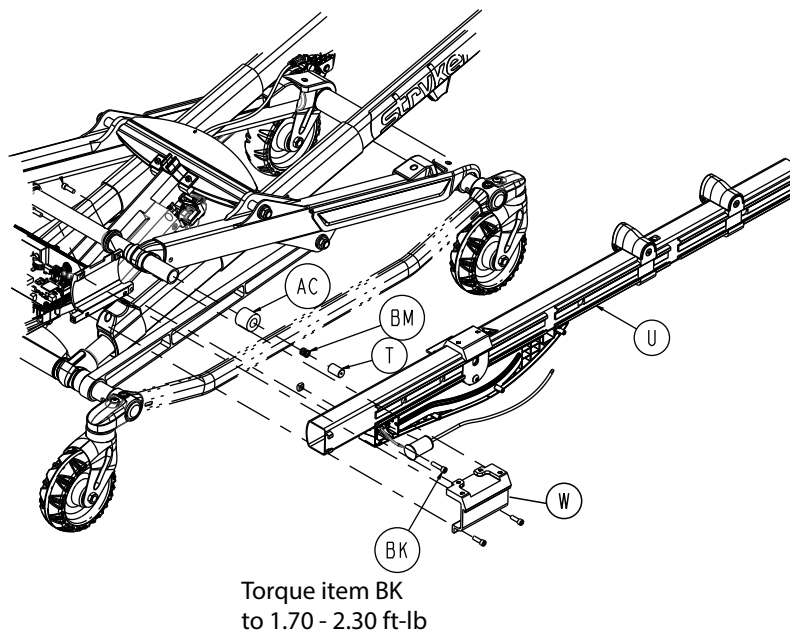

Figure 98 – Discard the slider roller
14. Using a 3/16" hex wrench, remove the socket head cap screw (BK) that secures the slider block to the hitch bracket o-clamp (W) to the outer rail (U) (Figure 98). Save the screw.
16. Remove slider roller (AC), slide magnet assembly (T), and compression wire (BM) (Figure 98). Save the slide magnet assembly and compression wire. Discard slider roller.